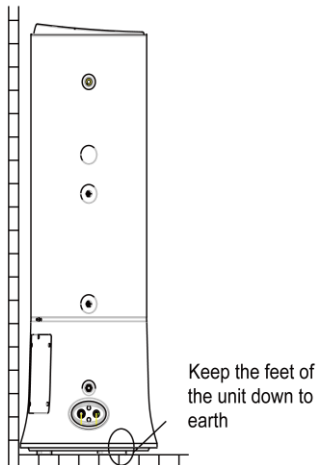

Figure 6-1 Fastening of the water tank
(1) The water tank can be installed outdoors with the main unit, for example, installed in the balcony, roof, or ground. It can also be installed inside the room. Try to install it in an environment where the temperature is higher than 0°C. The hot water outlet should not be too far away from the locations for use. Lay out the pipes in a centralized manner, and take thermal insulation measures on hot water piping to reduce heat loss.
(2) The water tank must be placed upright with all feet touching the ground. It must be installed on a solid foundation. During water tank installation, consider the weight bearing capability of the foundation. Figure 6-1 shows the installation diagram.